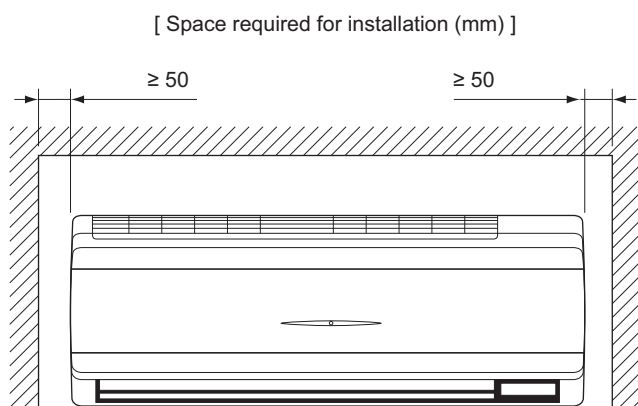
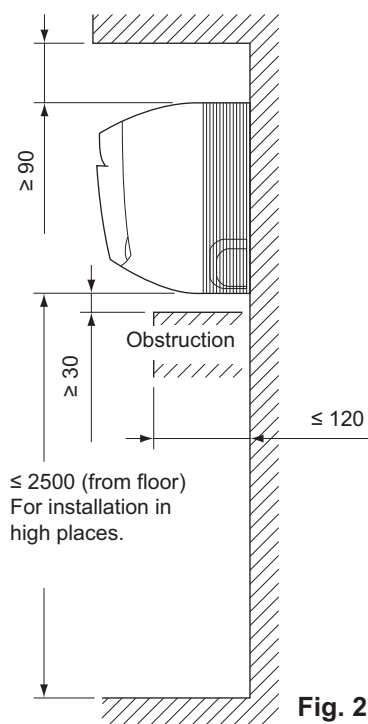

Fig. 1
Fig. 2
- Where sufficient clearance for installation and maintenance can be ensured. (Refer to Fig. 1 and Fig. 2)